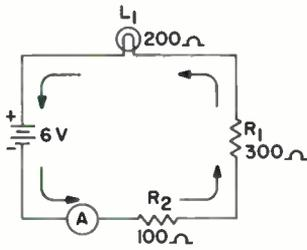

Fig. 17
- (1) in series—so that if one lamp fails, the other will still work?
- (2) in parallel—so that if one lamp fails, the other will still work?
3. In the series circuit shown in Fig. 17,
4. The current flowing *into* R_1 in Fig. 17 is 10 mA. How much current is flowing *out of* R_1 ?